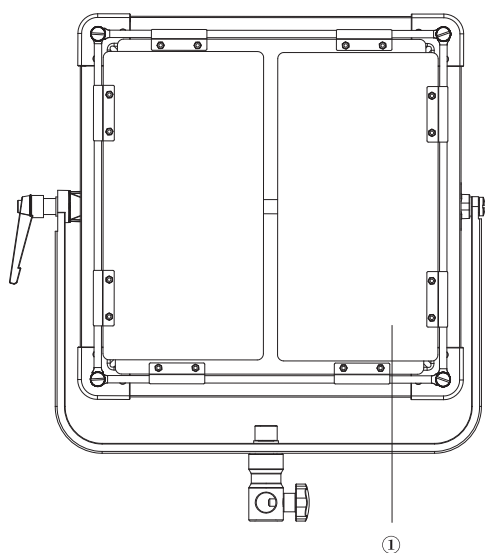

Fig.8 Barndoor Installation
- The Installation of barndoor, please see Fig.8, 9.